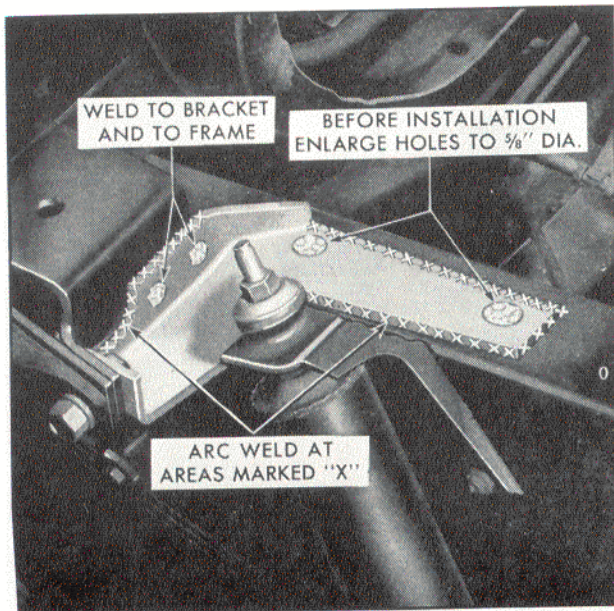

Fig. 6
3. Bolt reinforcement to steering gear housing and bracket using a $\frac{7}{16}$ -20 x $1\frac{1}{2}$ " hex head bolt. Clamp reinforcement to frame and weld to frame and bracket as shown in Figure 6.